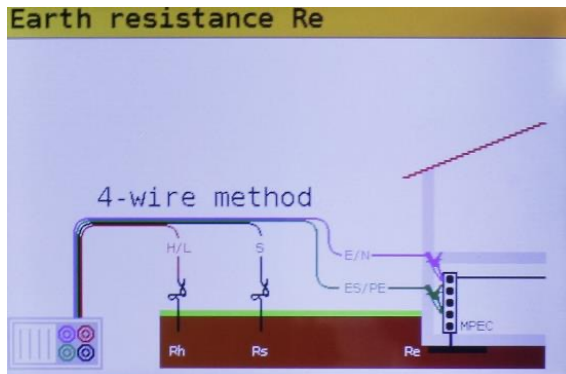

Figure 5.47: 4 wire connection diagram
Step 3 Follow the connection diagram shown in figures 5.47 to perform the **Earth Resistance** measurement with 4 wires.